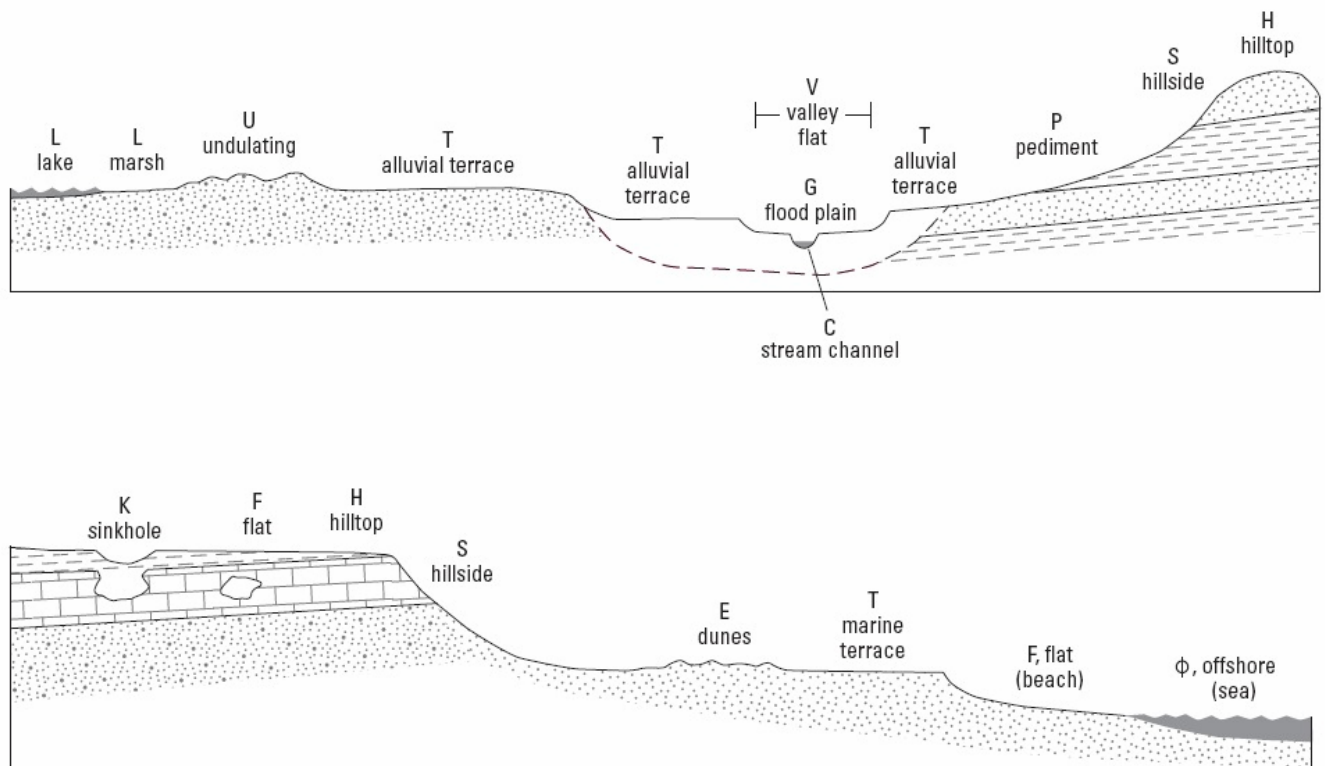

Figure 2. Topographic settings (from Babcock and other, 2004).
**Description:** A description of the topography at the site selected from a list defined as follows (fig. 2; Babcock and others, 2004):
(H) A hilltop is the upper part of a hill or ridge above a well-defined break in slope. A site on the crest of an escarpment or top of a cuesta slope (see fig. 2) should be in this category. Use this category for hills of significant height above a generally flat area, but not for small "swells" a few meters high on an undulating surface such as a valley flat.